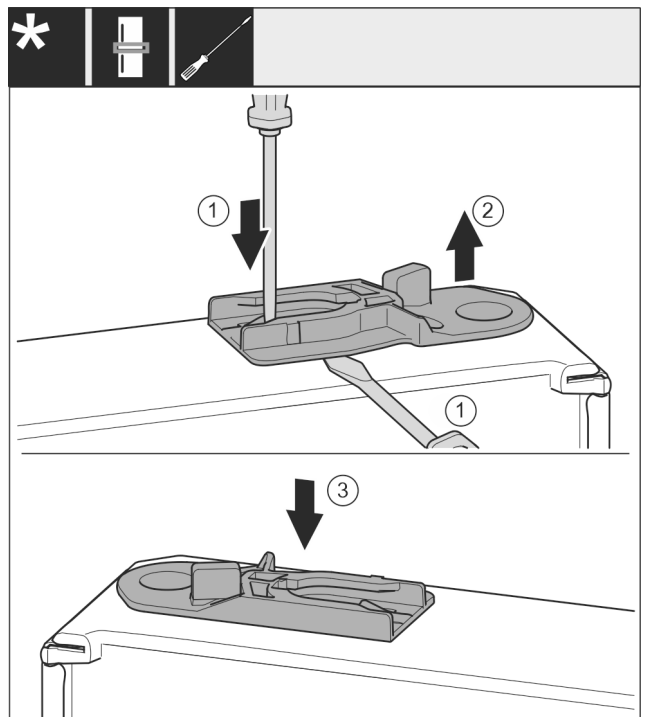

Fig. 34
- ▶ Appliances with closing damper: Pull out the guide bush: Press the tab Fig. 34 (1) with a flat-blade screwdriver and at the same time move the flat-blade screwdriver under the guide bush Fig. 34 (2).
- ▶ Appliances with closing damper: Insert the guide bush Fig. 34 (3) supplied on the other side of the housing.